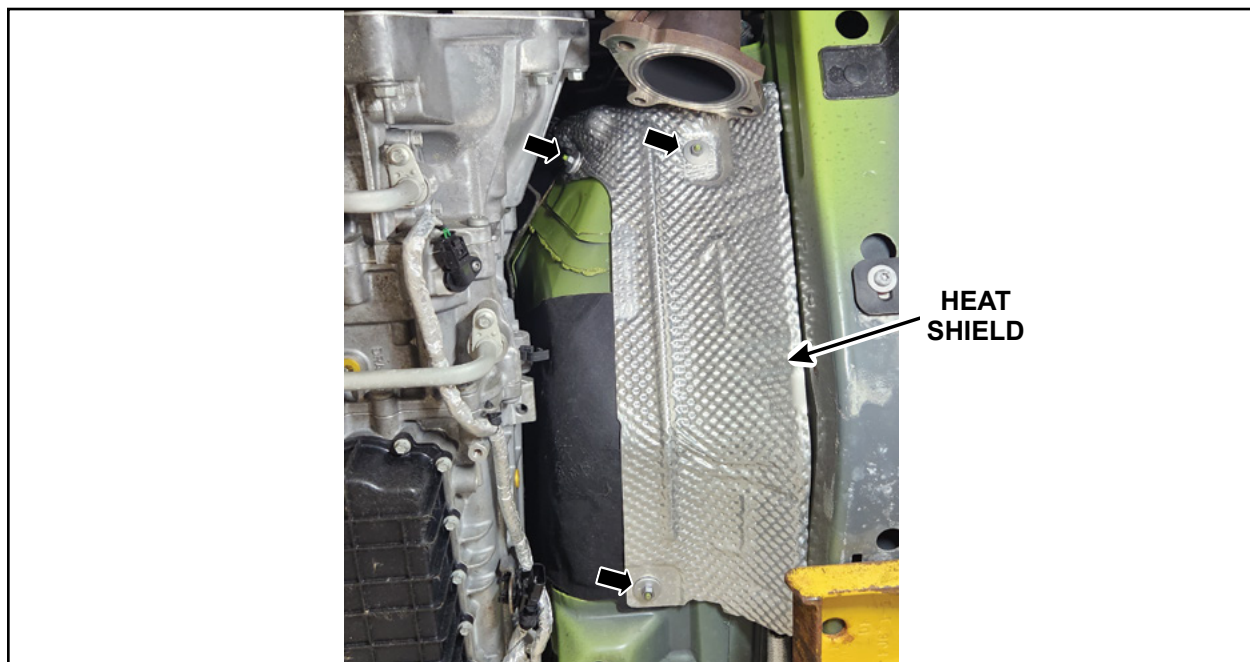

FIGURE 7
14. Remove the left hand (LH) catalytic converter. Follow the WSM procedures in Section 309-00C.
15. Remove the fasteners and the exhaust heat shield. See Figure 7.